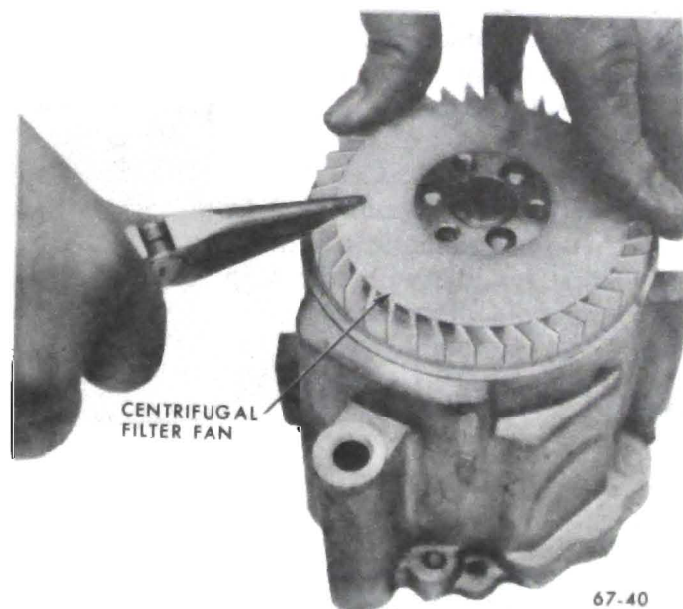

Figure 67-10 Removing Centrifugal Fan From Hub
2. Insert needle nose pliers and pull fan from hub, as shown in Figure 67-10. It is seldom possible to remove